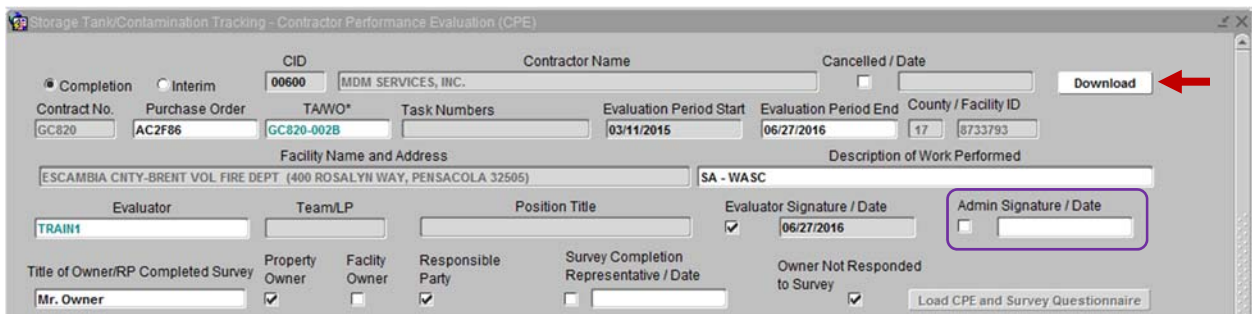

Figure 5
17. If approved, **check** the box left of **“Admin Signature/Date”** (Fig. 5, in purple).
19. **Click “Download”** (Fig. 5, red arrow) to download the CPE data in a spreadsheet.